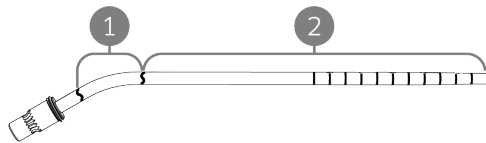

Figure 71 Malleable suction tube markings
2. If you are using a malleable suction tube, bend the suction tube to your desired angle. Malleable tubes are marked with a "malleable" pictogram below the handle attachment (📐). They may be bent anywhere between the pictogram and the thick straight line near that tip (the bendable area is indicated by item 1 in Figure 71).
Do not bend in the area indicated by item 2 in Figure 71.